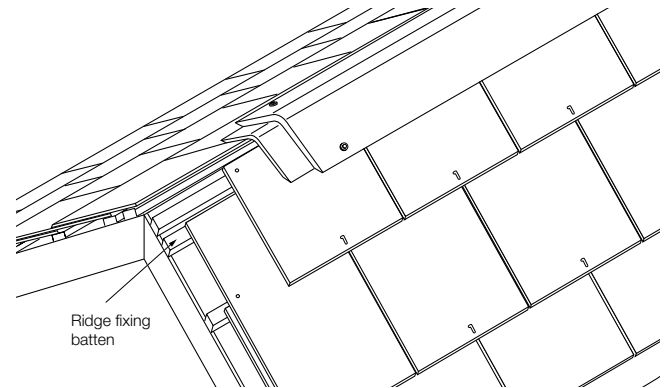

Fig. 27 – Ridge finished with duo pitch ridge units*
- 6 Locate successive ridge units along the roof apex, drill and screw to the ridge fixing battens, ensuring a level ridge with joints bedded on butyl strip [Fig. 27, page 43].